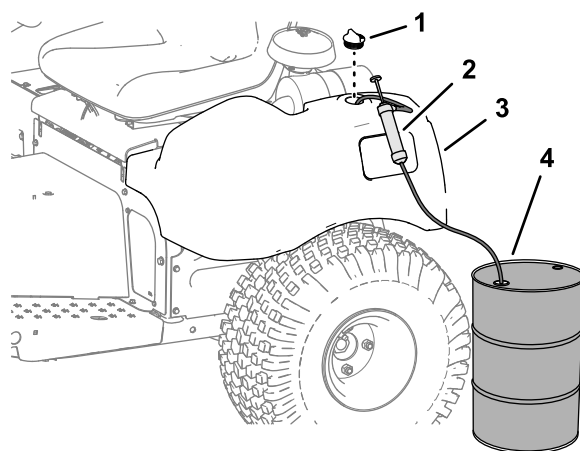

Figure 47
- Remove the cap from the hydraulic reservoir (Figure 47).
- Pump the hydraulic fluid from hydraulic reservoir (Figure 47).